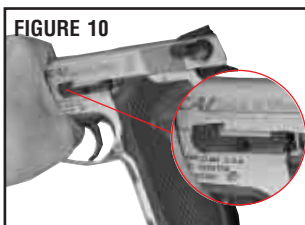

FIGURE 10
- Remove the magazine by depressing the magazine release button, clear the chamber and verify it is empty. Apply backwards pressure on the slide and move it back until the slide stop notch in the left side of the slide is aligned with the forward, rounded portion of the slide stop as shown in Figure 10. Firmly grasp the frame and slide with the left hand. Press inward on the slide stop pin (Figure 11) from the opposite side of the frame and remove the slide stop.